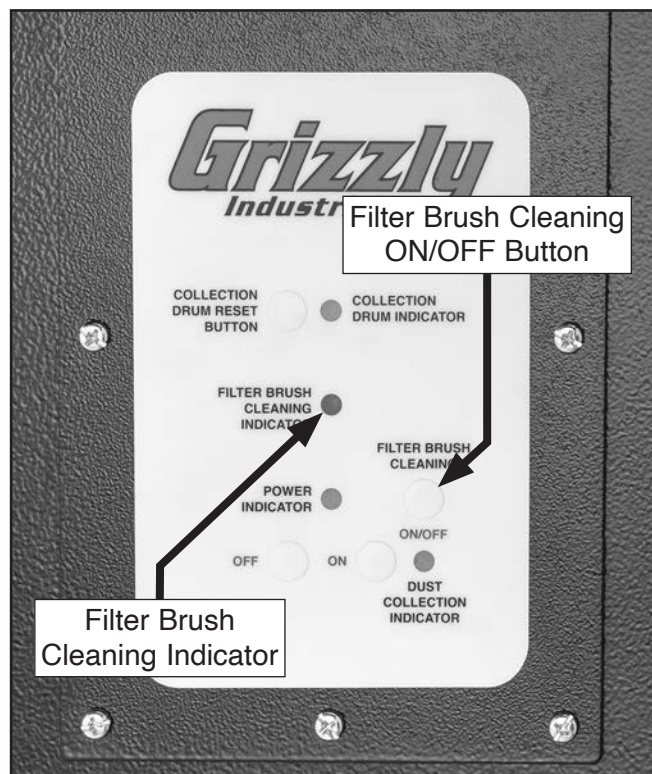

Figure 39. Location of filter brush ON/OFF button and filter brush cleaning indicators.
7. Press filter brush cleaning ON/OFF button to turn filter brush motor **ON** (see **Figure 39**).